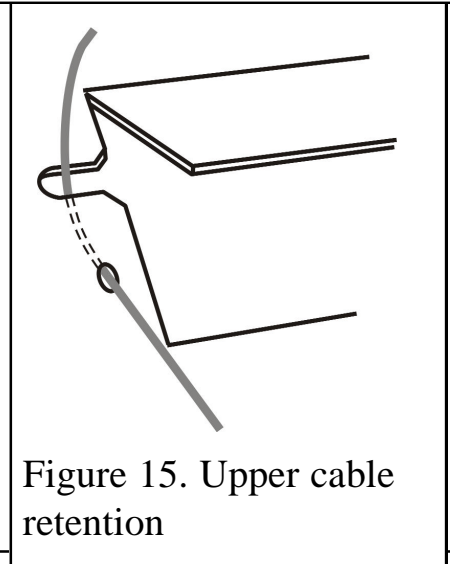

Figure 15. Upper cable retention
- The rear of the hotbox has a slot and hole each side of the outlet opening. Assemble one end of the cable to the top of the fire by passing it through the small round hole and locking by positioning the cable in the adjacent slot (See figure 15). Give the cables a pull so that they grip.